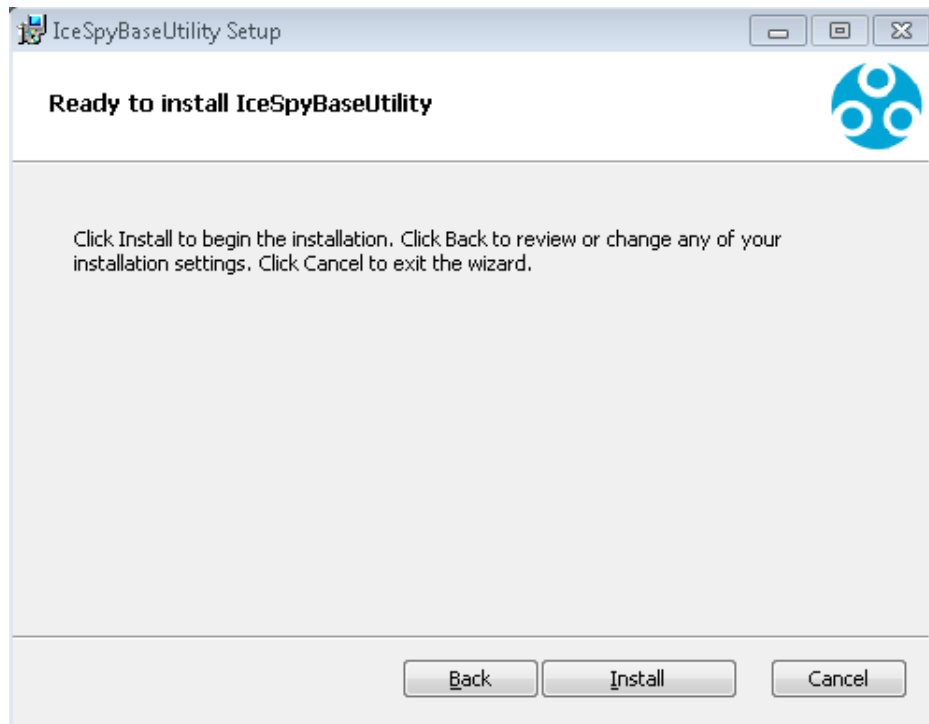

Figure 90
- The **IceSpyBaseUtility Setup – Ready to install IceSpyBaseUtility** window is displayed. See Figure 90: